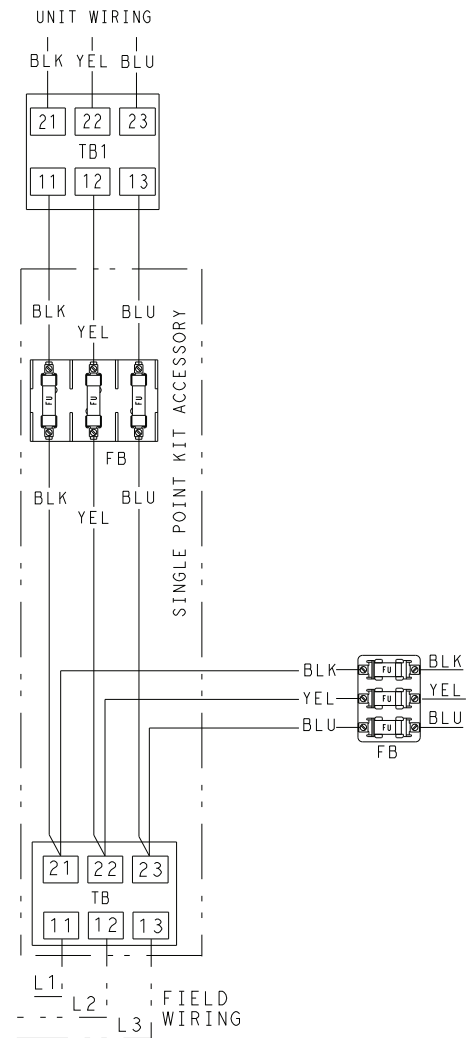

Fig. 46 — Wiring Diagram for Single Point Kit Accessory When Required
7. To be used with Standard SCCR (5kA) Units Only. Refer to Fig. 46 for wiring single point kit accessory when required. Using three 1/4-20 nuts, connect power wires to the load side of terminal block.